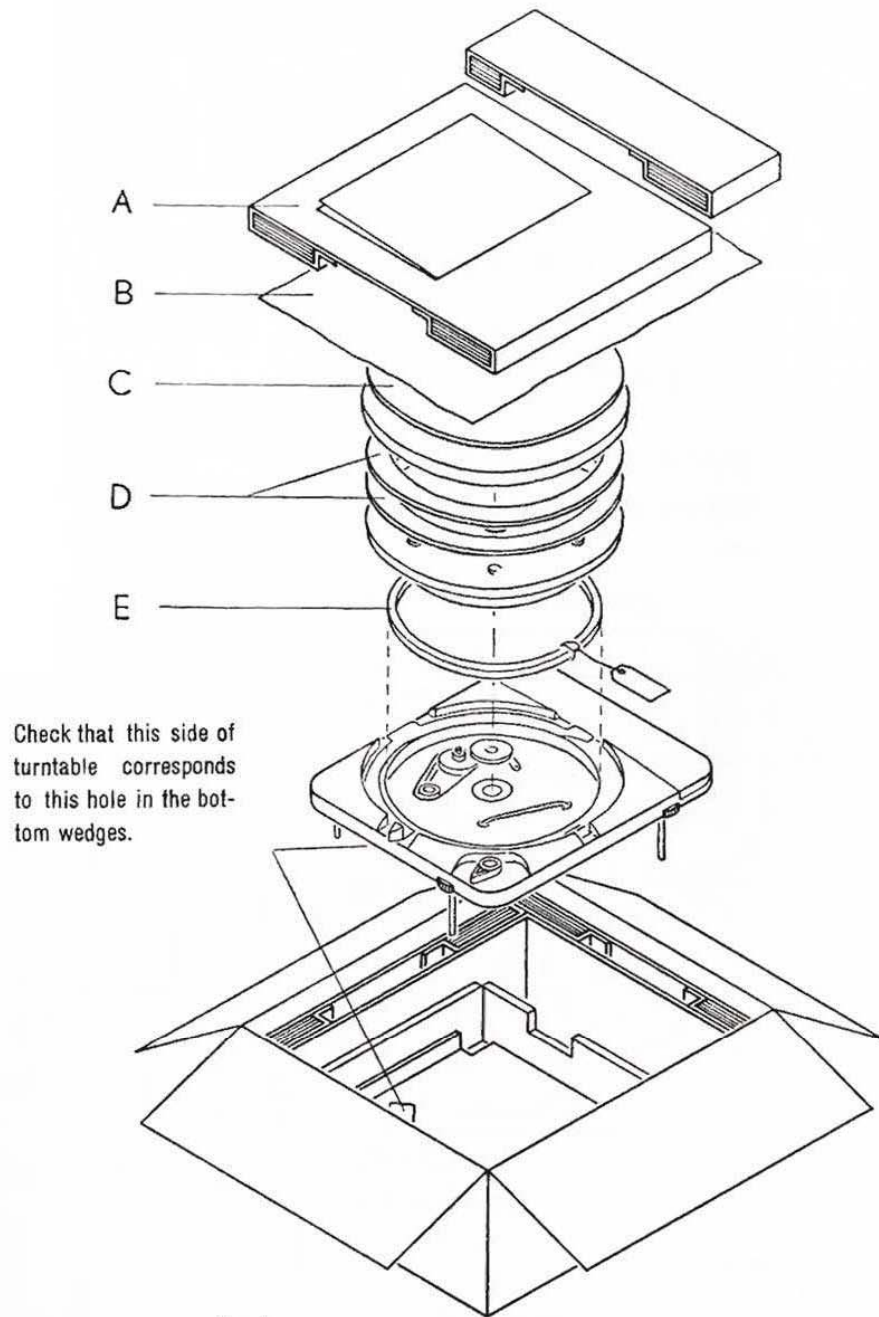

Fig. 1
3. Remove sleeve A and turntable paper B (See Fig. 1 page 5).
After the turntable has been placed into the box according to Fig. 1 and the top cover closed with adhesive paper strips, turn the box upside down and open the bottom cover. Check that all wedges and accessories are in the position corresponding to this illustration.